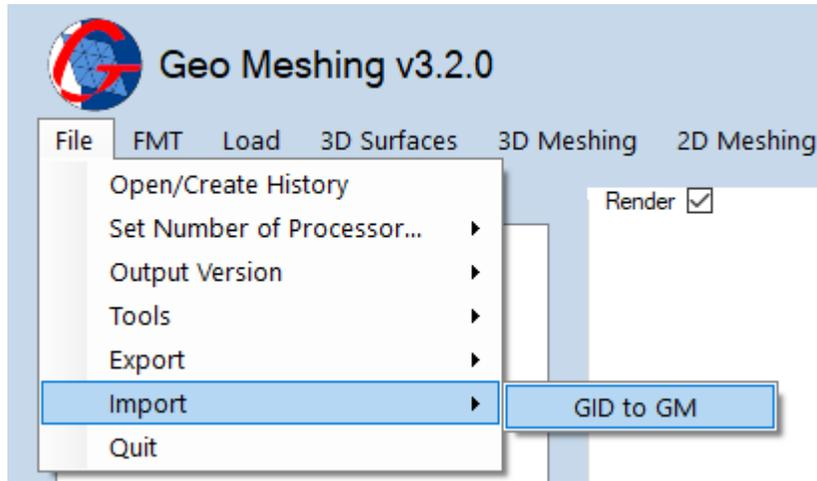

Figure 17: File Menu – Export.
- **File Menu, Import:** This option (shown in Figure 17) has a submenu with *GID to GM* option.